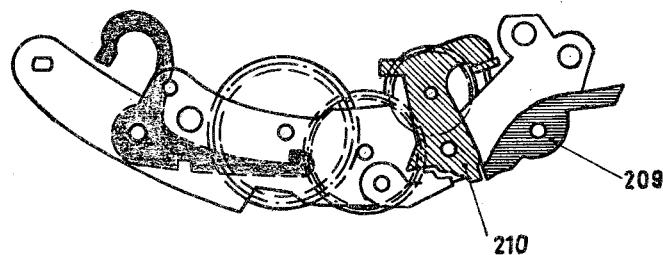

Fig. 11
a. The new selftimer differs from the selftimer of earlier design by the provision of an additional lever 209 (Fig. 11) on the under side of the lower carrier plate. This lever, which func-